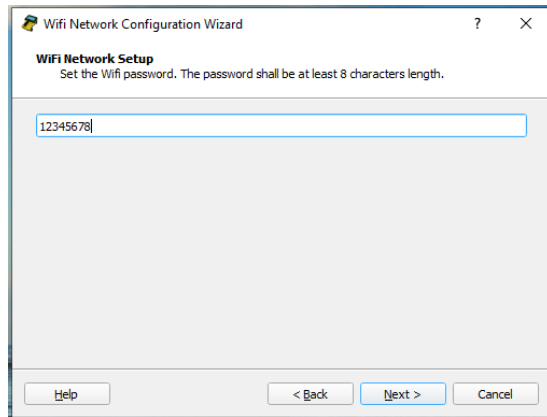

Fig. 97 – Network password setting
- 5) By selecting **Next >**, a new interface will let the User to set a new access password for the renamed wifi network or keep the default setting (Fig. 97).